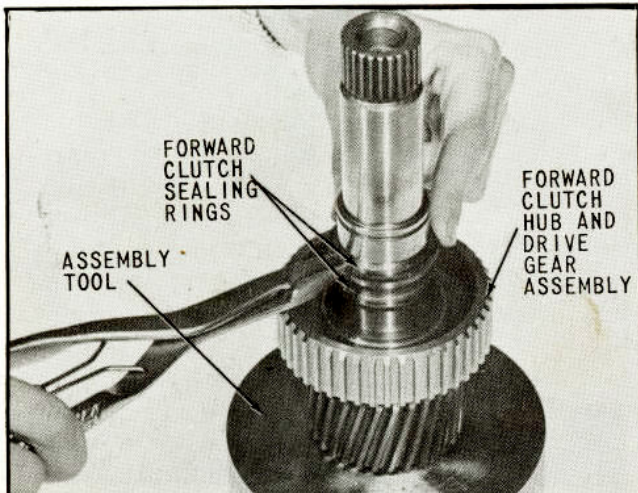

Fig. 43 Installing Forward Clutch Sealing Rings on Drive Gear
39. Install two (2) forward clutch sealing rings in grooves provided on drive gear, (Fig. 43). After in-